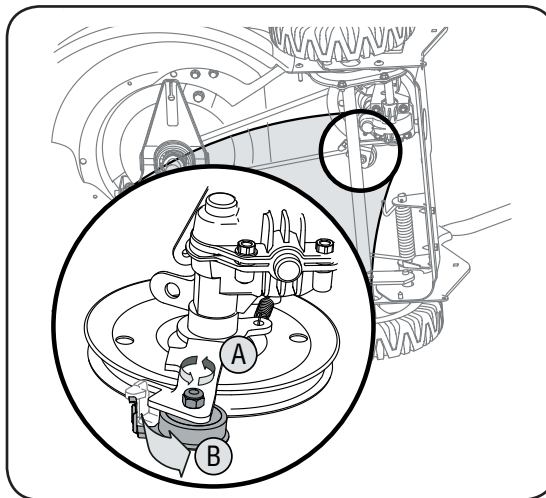

Figure 15
9. Tilt the transmission forward and loosen the idler pulley bolt and locknut 1/2 turn using two 7/16" wrenches. See Figure 15.